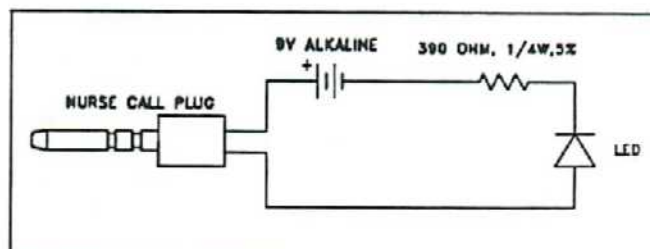

Figure 2-2. Nurse Call Test Light
4. Nurse Call Test Light (see figure 2-2) (Software Release P-0.x/1.x ONLY)